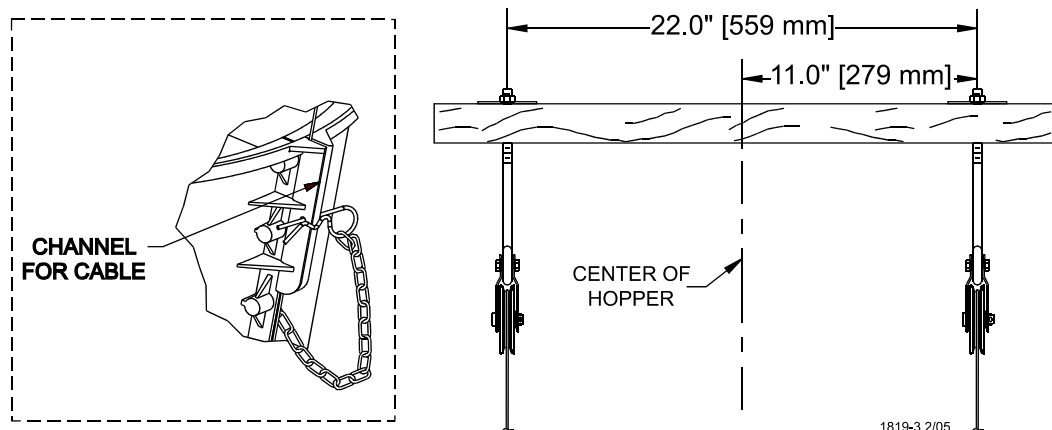

Figure 23. Pulley Installation
8. Install two pulleys to either a 2" x 8" [50x200 mm] board that will span at least 3 rafters or a 3/8" [9.5 mm] thick steel plate welded to two pieces of angle iron that are long enough to span at least 2 rafters. Install the pulleys directly above the feeder line where the hopper is to be located. The pulleys should be spaced 22" [559mm] apart (11" [279 mm] from the center of the hopper in both directions), see **figure 23**.